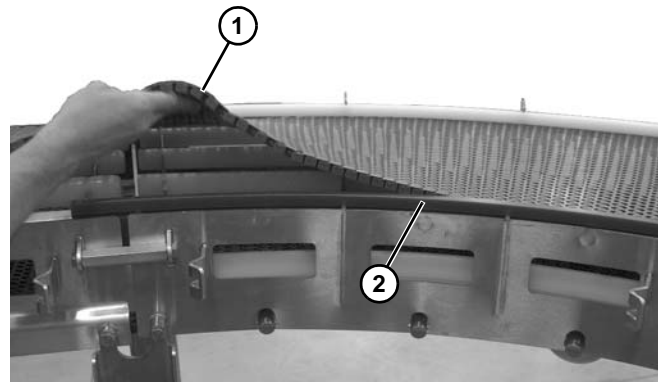

Figure 33
4. Raise belt (Figure 33, item 1) out of and over inner wear strip (Figure 33, item 2).